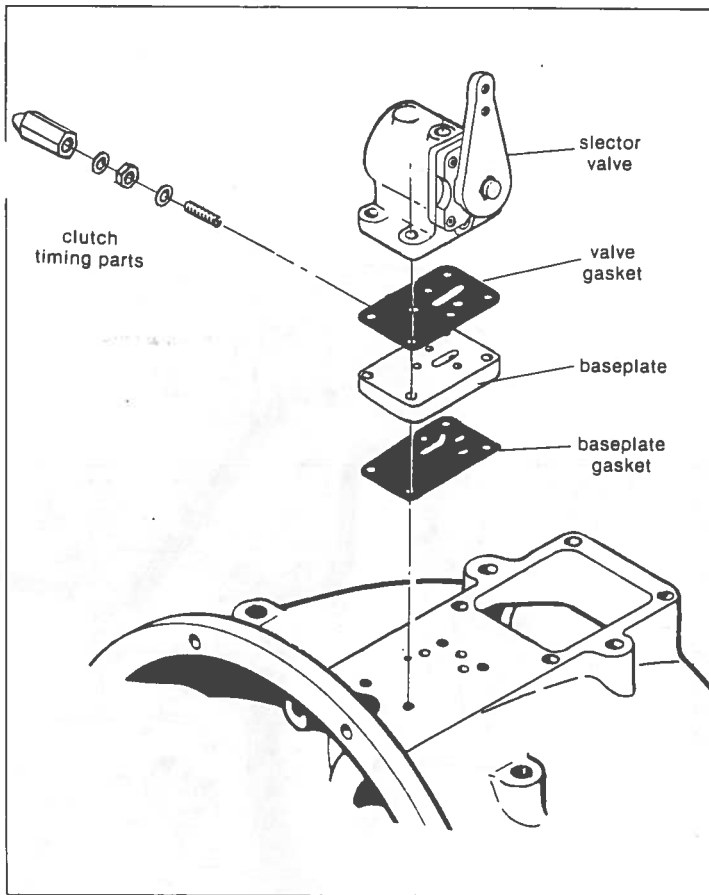

Fig. 15. Sequence of Parts
7. Check for correct assembly by moving lever back and forth. Selector valve is now ready to be installed on base plate and main housing. See fig. 15 below.
4. Remove selector valve and baseplate and be **very careful** to keep gaskets in proper configuration for future replacement. Refer to fig. 15.